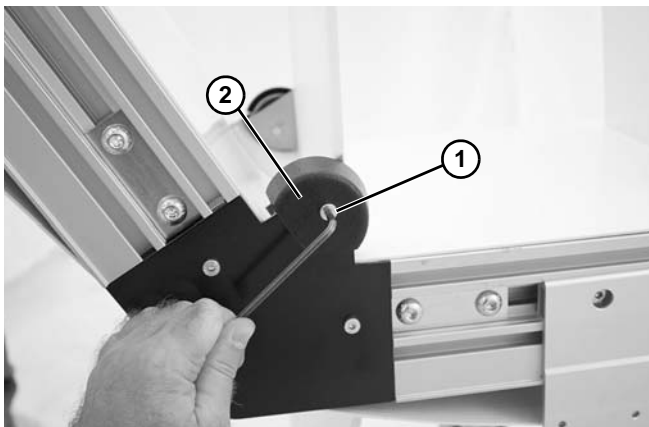

Figure 134
1. Remove screw (**Figure 134, item 1**) and guard (**Figure 134, item 2**) on the worn bearing side of the knuckle.
4. Replace guard (**Figure 134, item 2**) and secure with screw (**Figure 134, item 1**).